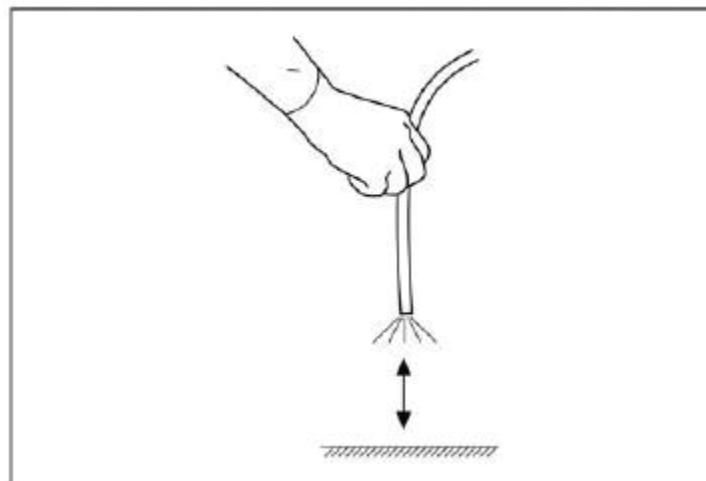

Fig 3.3
3. Point the endoscope's distal end to a suitable object, and move between 1cm and 6 cm away from the object. Confirm that the brightness of the image on the screen remains constant. (Fig 3.3)